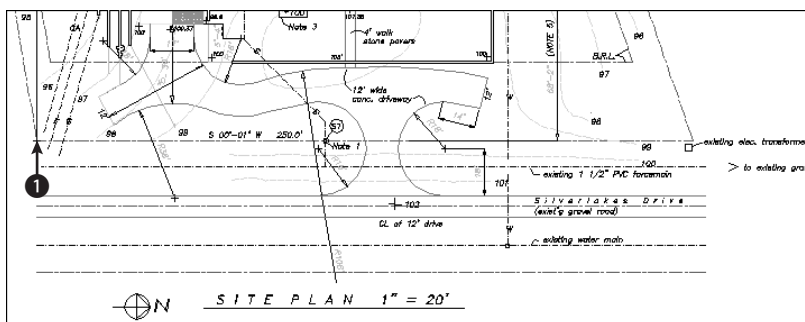

Figure 16-40: The completed multiline
- 1 in Figure 16-40. (If necessary, press Tab until you get the Intersection object snap.) At the <Offset>: prompt, type @0,-10' ↵.
4. At the Specify next point: prompt, move the cursor to the right and type 255' ↵. If you want, you can experiment by drawing other line segments. Press Enter to end the command. The drawing should look like Figure 16-40.